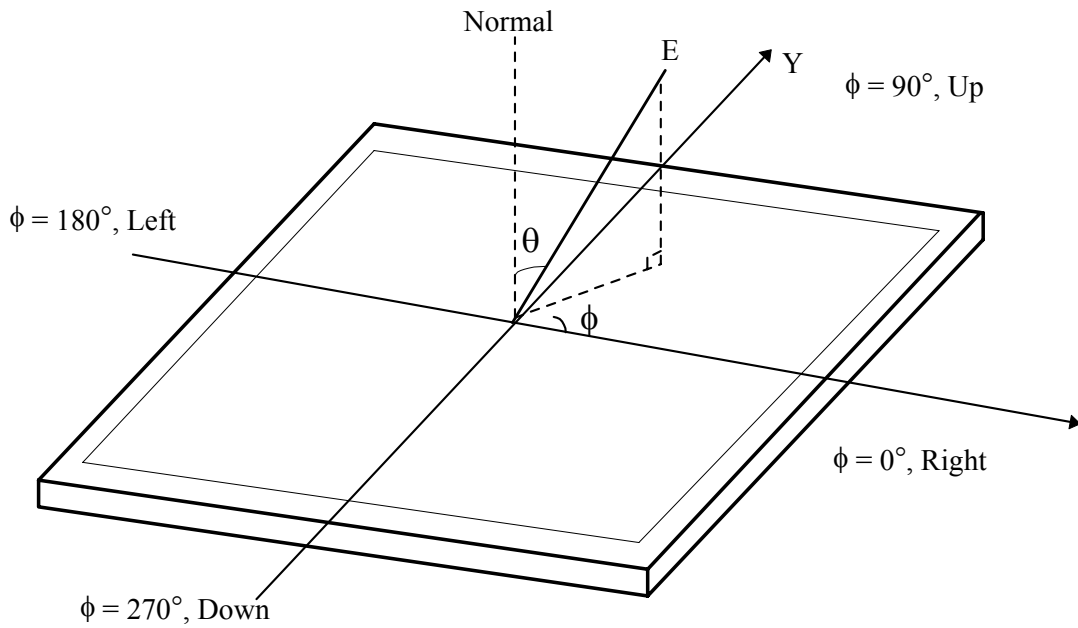

FIG. 4 Viewing angle
5. Viewing angle is the angle at which the contrast ratio is greater than 10 or 5. The angles are determined for the horizontal or x axis and the vertical or y axis with respect to the z axis which is normal to the LCD surface. For more information see FIG 4.